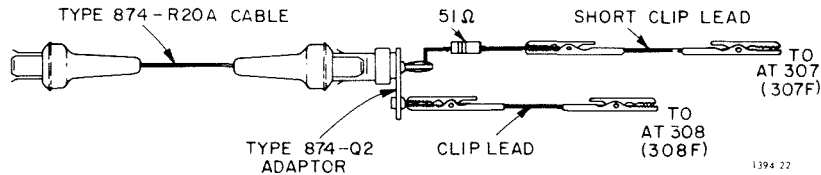

Figure 5-1a. Special cable used in calibrating the Type 1394.
h. Using two special cables such as the one shown in Figure 5-1a, view the signals produced by the Type 1394 at terminal AT307 and terminal AT307F.